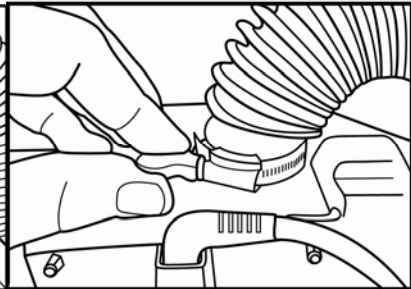

Fig. 11
5. Finger tighten clamp. **DO NOT OVER TIGHTEN.** Ensure that the breathing tube is secured to the Turbo PAPR unit outlet and that the end of the breathing tube is visible between the Turbo PAPR unit and the hose clamp. (Fig. 11)